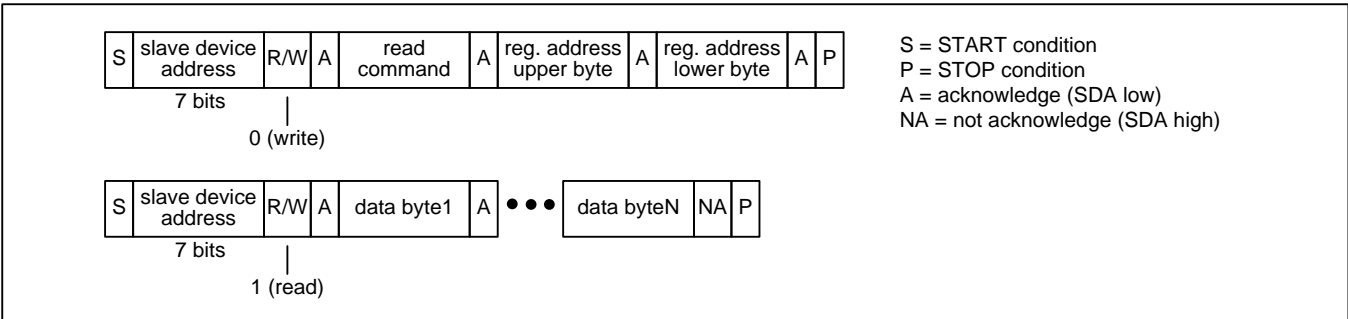
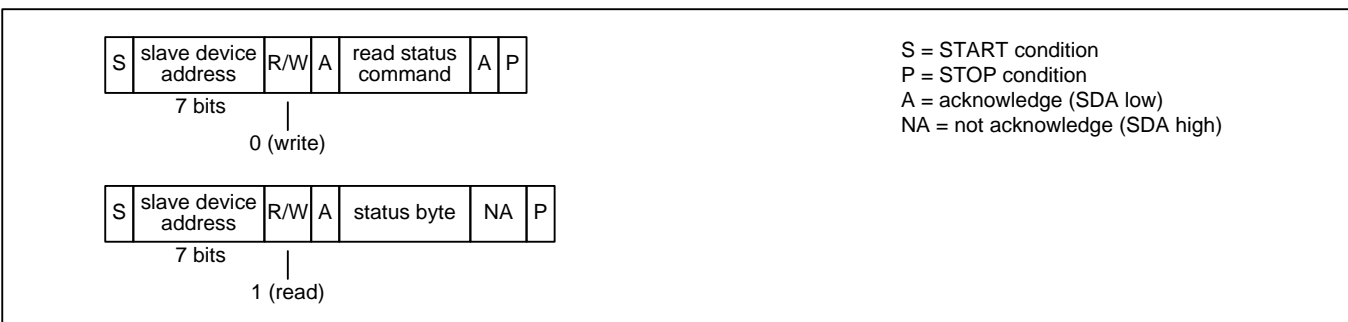

Figure 9 - I2C Read Transaction Functional Timing
Figure 12 - I2C EEPROM Read Status Transaction Functional Timing (ZL30265 and ZL30267 Only)
**Read Transactions.** The device registers are accessible when the **EESEL** bit is 0. On ZL30265 and ZL30267 the internal EEPROM memory is accessible when the **EESEL** bit is 1. On ZL30264 and ZL30266 the **EESEL** bit must be set to 0. The bus master first does an I2C write to the device. In this transaction three bytes are written: the SPI Read command (see Table 3), the upper byte of the register address, and the lower byte of the register address. The bus master then does an I2C read. During each acknowledge (A) bit the device fetches data from the read address and then increments the read address. The device then transmits the data to the bus master during the next 8 SCL cycles. The bus master terminates the read with a not-acknowledge (NA) followed by a STOP condition (P). See Figure 9. After the I2C write there can be unlimited idle time on the bus before the I2C read, but the device cannot tolerate other I2C bus traffic between the I2C write and the I2C read. Care must be taken to ensure that the I2C read is the first command on the bus after the I2C write to ensure the two-part read transaction happens correctly.
**EEPROM Read Status (ZL30265 and ZL30267 Only).** The bus master first does an I2C write to transmit the SPI Read Status command (see Table 3) to the device. The bus master then does an I2C read to get the status byte. In this byte, the least significant bit is set to 1 if the transfer is still in progress and 0 if the transfer has completed. See Figure 12. Similar to read transactions described above, the I2C write and the I2C read cannot be separated by other I2C bus traffic.
Note: In Figure 9 through Figure 12, a STOP condition (P) immediately followed by a START condition (S) can be replaced by a repeated START condition (Sr) as described in the I2C specification.